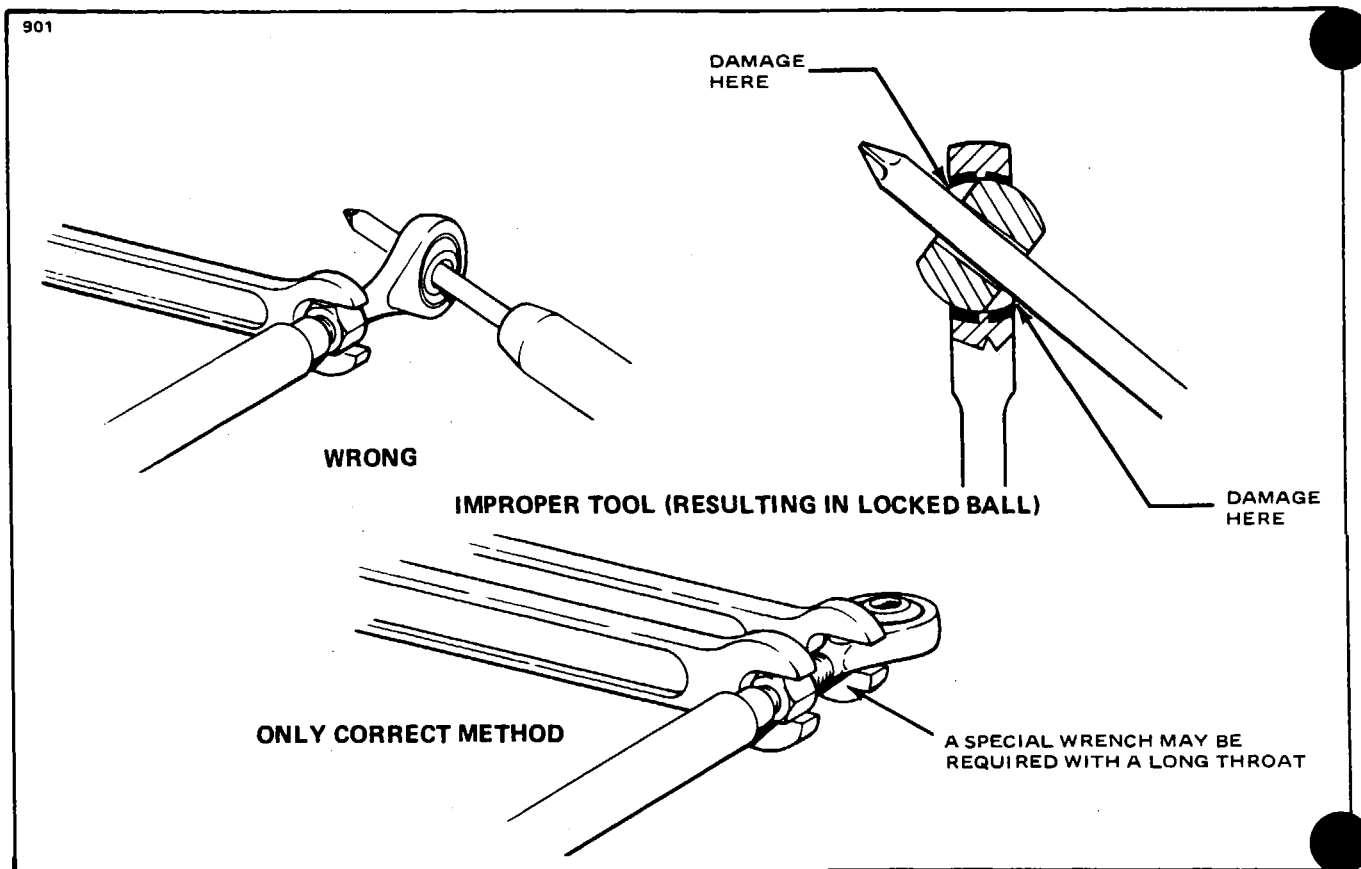

Figure 5-2. Correct Method of Installing Rod End Bearings
- i. When installing rod end jam nuts refer to Figure 5-2 for proper installation method..